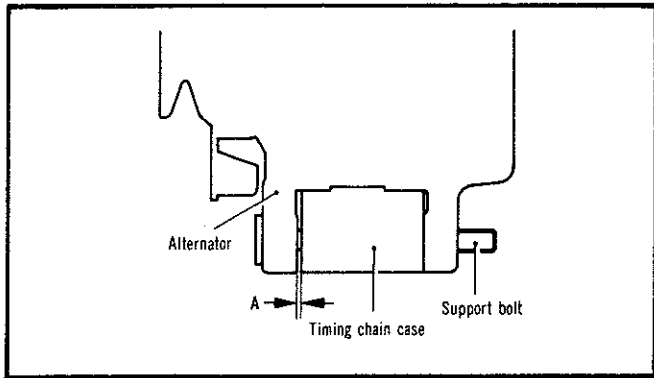

Fig. 5—Alternator mounting gap
- (1) Position the alternator on the engine and install the mounting bolt.
- (2) Pull the alternator forward so that the rear mounting abuts the timing case.
- (3) Measure the gap A (Fig. 5) and insert a suitable number of spacers.
- (4) Adjust the drive belt tensions as described in Group 7 and tighten the mounting bolts to specification.